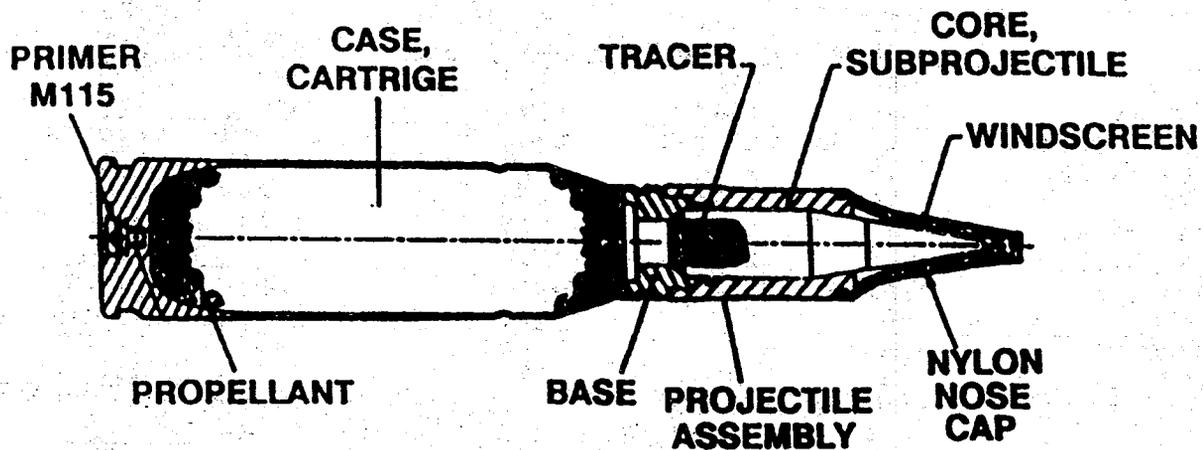

Fig 5
(4) M910 Target practice discarding sabot with tracer. The TPDS-T (Figure 5) allows units to practice sabot engagements on limited distance ranges. Instead of the 14,572-meter maximum range for the APDS-T, the maximum range is 6,400 meters.